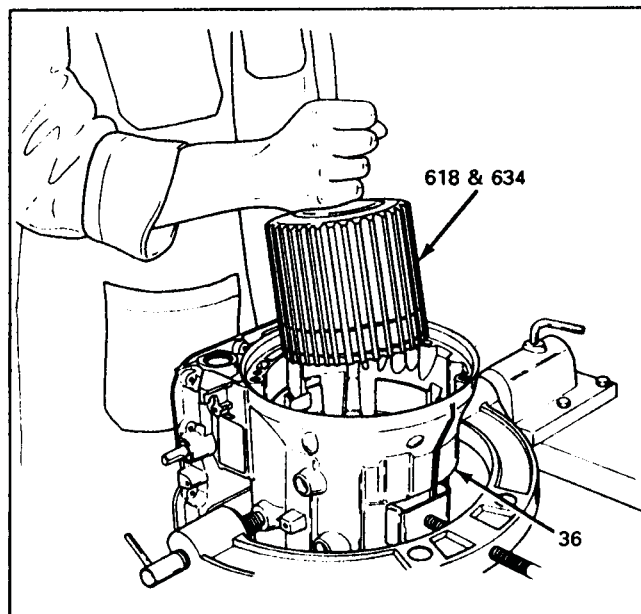

Figure 97
14. Firmly grasp the intermediate shaft of the pre-assembled second and third clutch housing assemblies, as shown in Figure 97.
15. Lower the 2nd and 3rd clutch housing assemblies into the main case and slowly rotate the intermediate shaft to engage the sun gear into the planetary carrier (See Figure 97).